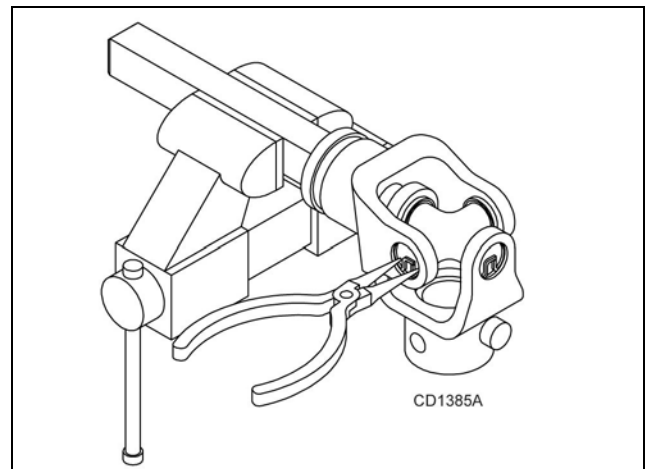

Figure 19. Remove Snap Rings
1. Remove external snap rings from yokes in four locations as shown in Figure 19.